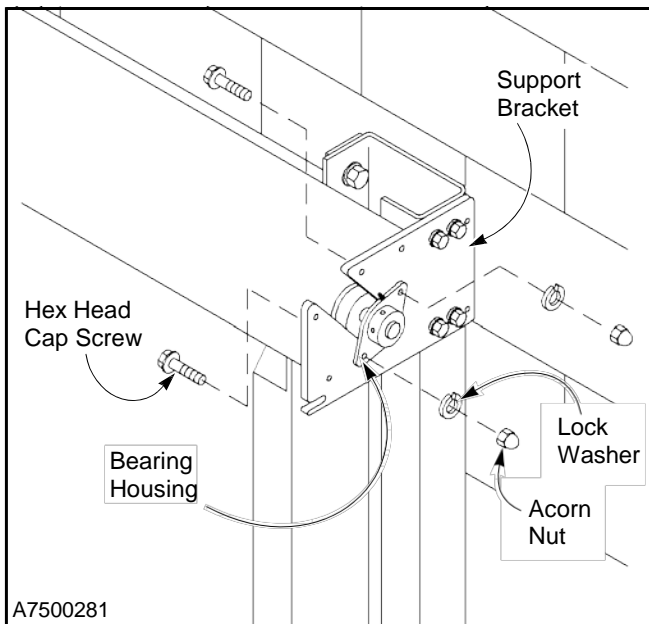

Figure 26
7. Now mount the bearing housing to the support bracket using two  $\frac{3}{8}$ -16 x 1½-in. stainless steel hex head cap screws, lock washers, and acorn nuts. The mounting hardware is located in the small parts carton. (See Figure 26.)